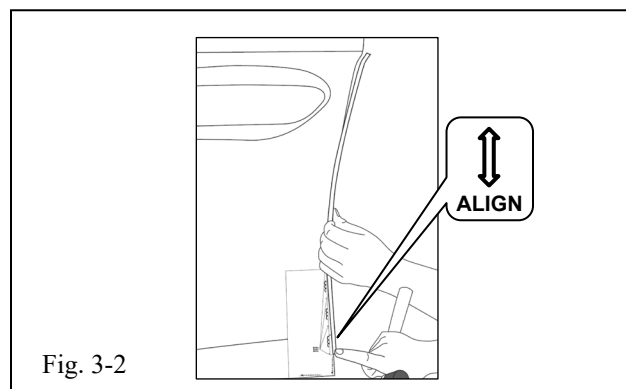

Fig. 3-2
- (1) Tape template to door and align (Fig 3-2).